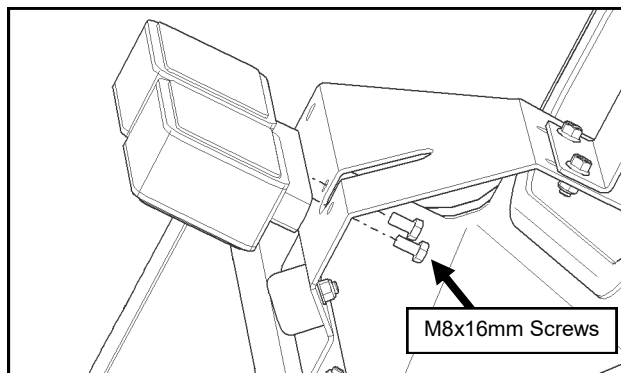

Fig. 18.1 (Assemble OEM Side Lights to Cab)
- 18.1** Per fig. 18.1, mount the left rear light to the light mount bracket. Ensure the light is right side up with amber at the top and the brake light facing backward, as the light can easily be flipped by accident. Tighten hardware.